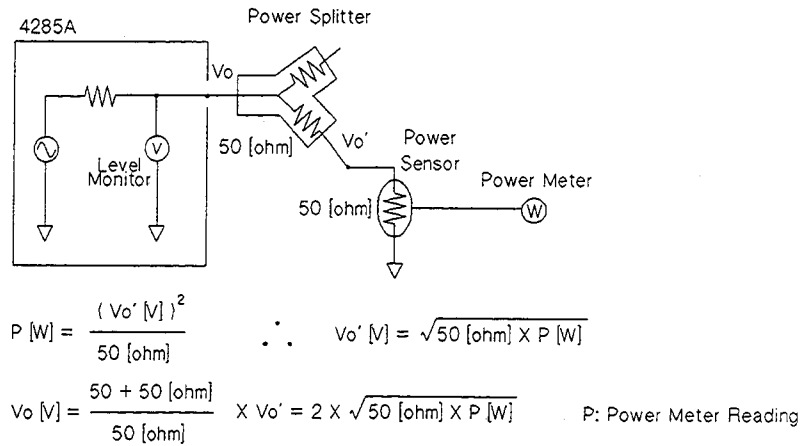

Figure 1-6. Test Signal Voltage Calculation
8. Calculate the test signal voltage according to the Calculation Sheet, and record it into column **[b]**. Figure 1-6 explains the voltage calculation theory.